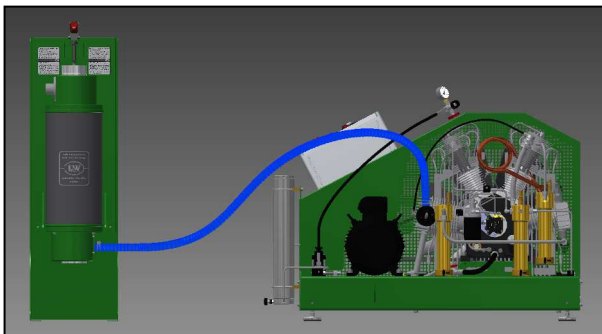
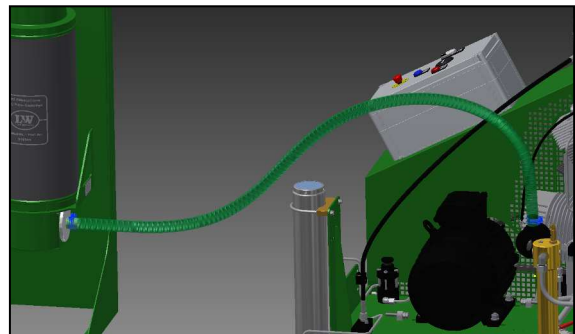

Fig.1: Hose Connection
Fig.2: Wire Hose Clamps
- Make a hose connection between the hose connection of the lower adapter housing of the CO₂ filter and the suction filter of the compressor (Fig.1) and fix it with the wire hose clamps (Fig.2).
- Open the push-pull type toggle clamp of the CO₂ filter (Fig. 1).
- Remove the CO₂ filter cartridge (Fig. 2) (Order No. 010381). Environmentally sound disposal, see safety instructions.